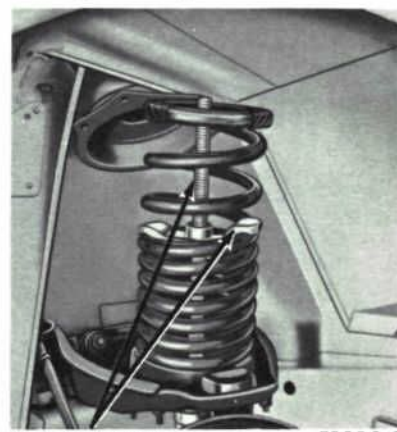

FIG. 102—Front Spring Compressed
2. Insert one helix type insulator between the two top coils of the spring and attach the other to the bottom coil (Fig. 102). Secure both insulators in place with tape. Place the flat rubber insulator over the top of the spring, and secure it in position with tape in three places as shown in Fig. 101.